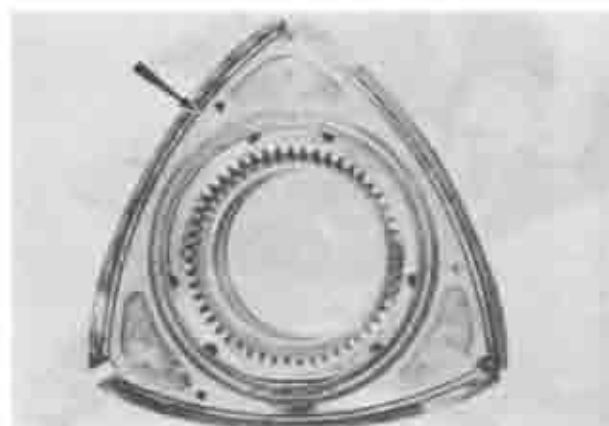

Fig. 1-28. Identification mark of rotor.
**Note:** The rotors are marked as shown in Fig. 1-28. "F" on the internal gear side indicates the front rotor, while "R" indicates the rear rotor. When assembling, be careful to these marks.